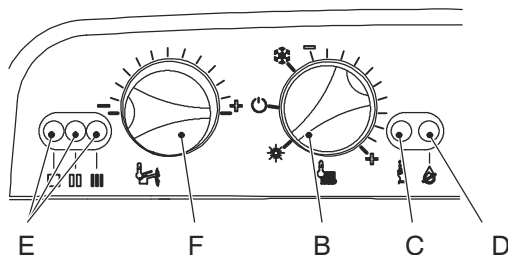

Fig. 11.4
- 6 Set the function knobs as illustrated in Fig. 11.4.
- 14 Set the function knob B as indicated in Fig. 11.4. The appliance operation light on the left will flash every 4 seconds.
- 15 Keep pressed the reset button C for about 10 seconds (Fig. 11.4) until the lock-out signal lamp D blinks.